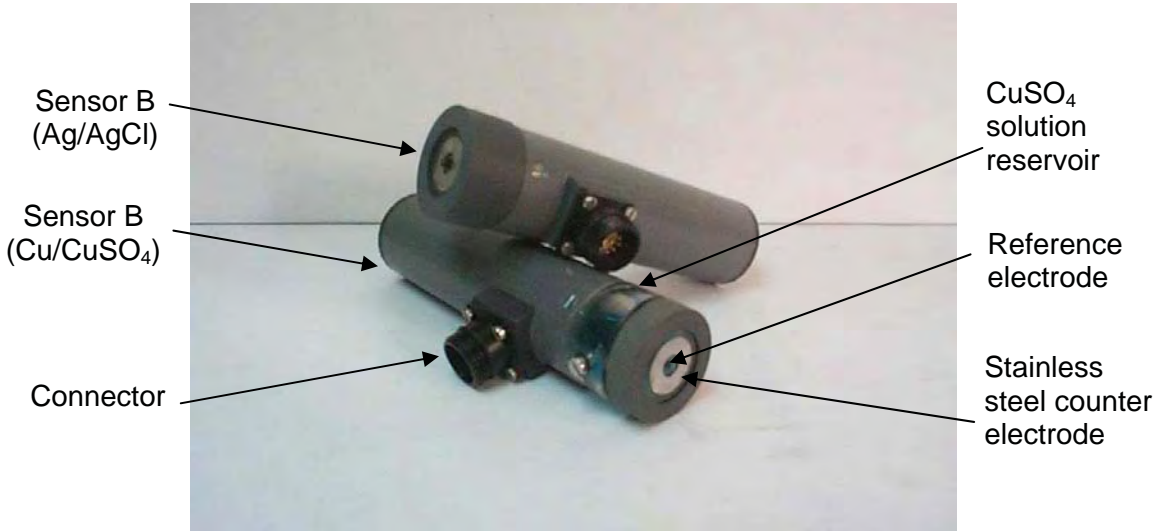

Figure 4.- Sensors B
2.3 **SENSOR B** (See Figure 4)